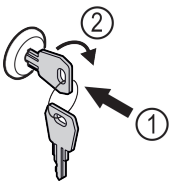

Fig. 164
- ▶ Insert key Fig. 164 (1).
- ▶ Turn key clockwise by 90° Fig. 164 (2).